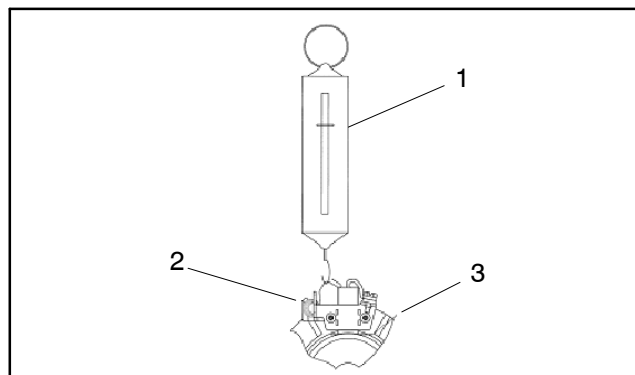

Figure 58
5. Brush springs should be checked for proper tension using the following procedure (Fig. 58):